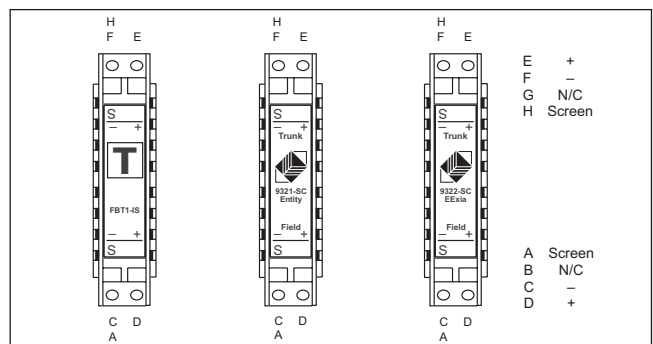

Figure 16 - Terminal assignments
The +, - and cable screen (S) connections are indicated in Figure 16. The terminals will accept cables with a cross sectional area of up to 4 mm². A straight blade screwdriver with a maximum blade width of 3.5 mm is required to operate the terminals. The recommended tightening torque is <0.9 Nm.